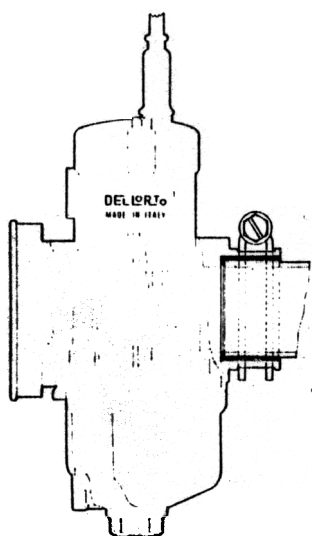

fig. 5
- B-female clamp fixing (figure 5)
Note that the female clamp fixing and the flange connection, as you can see in figure 5 and 6, there is also the need to provide both effective heat insulation and a perfect airtight seal.